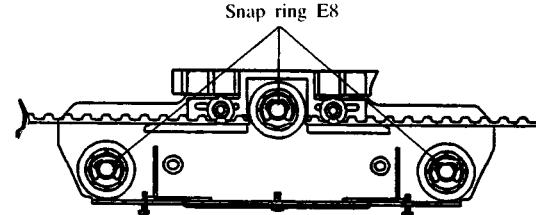

Fig. 79-2
12.2 Assembling Shuttle Base (See Fig. 79-2)